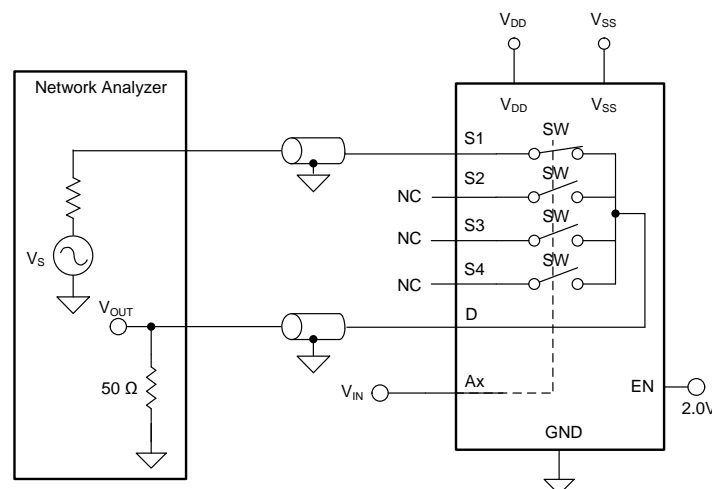

Figure 26. Bandwidth Measurement Setup
Bandwidth is defined as the range of frequencies that are attenuated by < 3 dB when the input is applied to the source pin (S_x) of an on-channel, and the output is measured at the drain pin (D) of the TMUX6104. Figure 26 shows the setup used to measure bandwidth of the mux. Use Equation 4 to compute the attenuation.